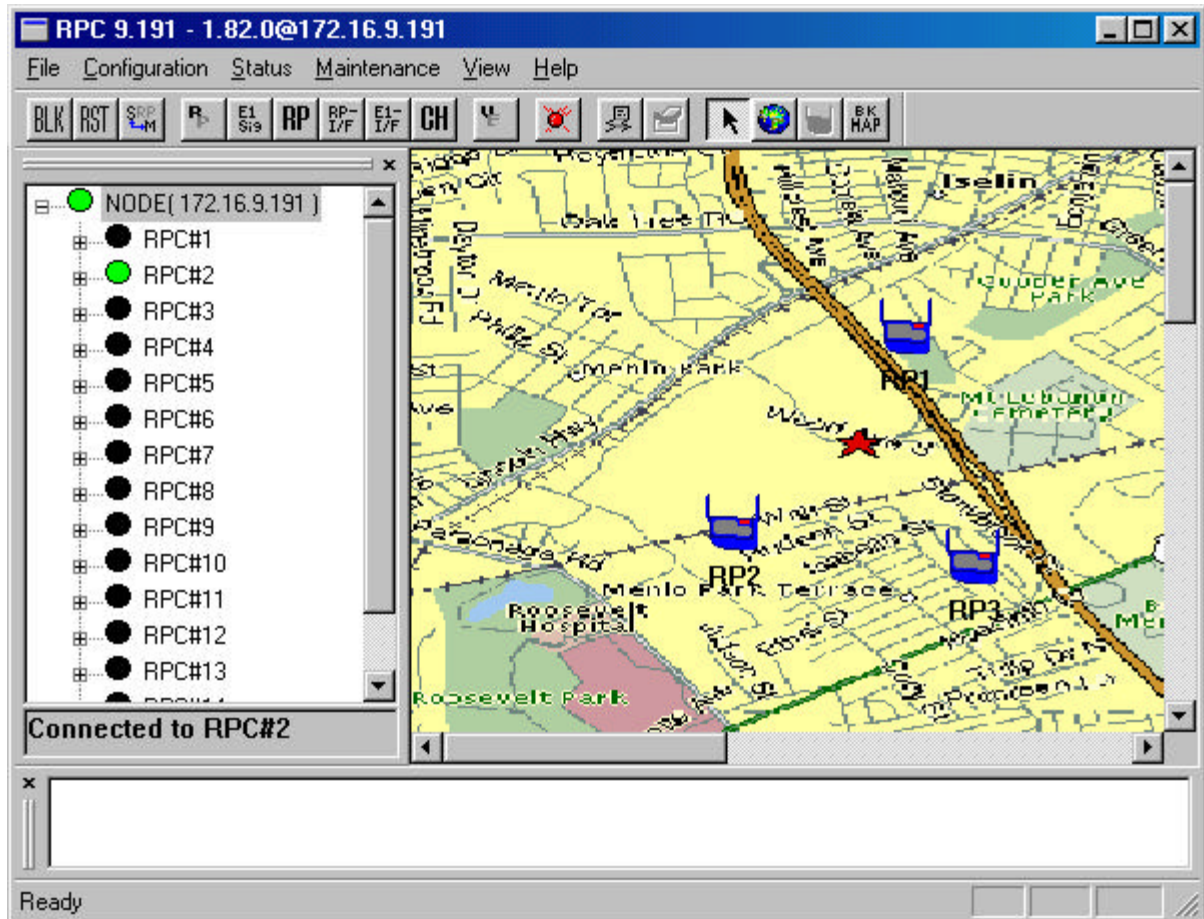

Figure 4-12: RP Map Window
2. This window is similar to that in Figure 4-9. Enter the relevant data into the fields and click **Finish**. The RP icon appears on the map and the data are stored in the database. Repeat this process to add as many RP icons as needed. Figure 4-12 illustrates a map with three RP icons.